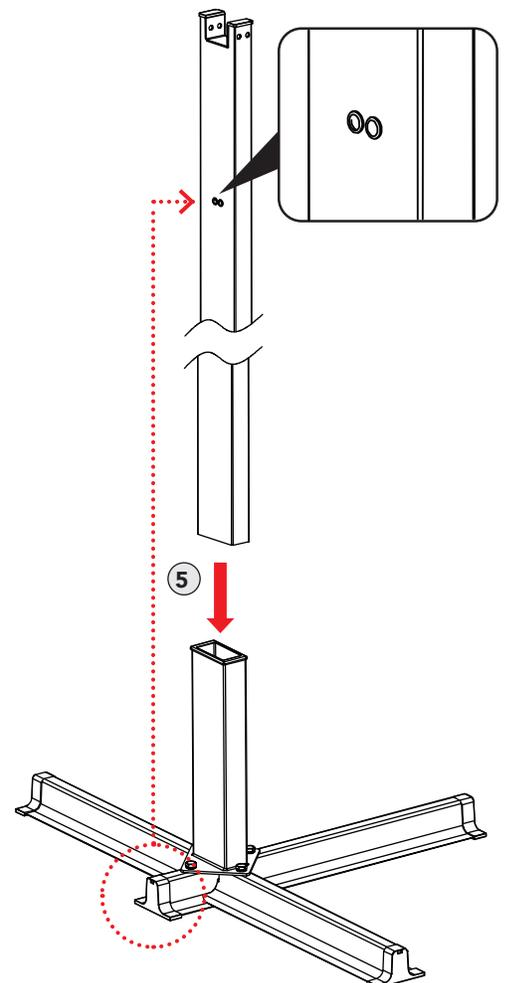

Fig 12
- ① Join the Short over the Long Foot/Base by aligning the cross slots, creating a cross base.
- ② Align the Lower Leg to the cross base pre-drilled holes, insert the Lower Leg Bolt Sets (Part L = Bolt, Lock Washer, Washer) and with a ½" wrench securely tighten in place.
- ③ Ensure the Upright Leg Cover is inserted to top of Upright Leg
- ④ Ensure the Lower Leg Coupling Insert is inserted and at the base of the Lower Leg and insert the Lower Leg Cover onto Lower Leg.
- ⑤ Insert the Upright Leg into the Lower Leg.
- ⑥ Repeat steps for additional leg support.
**\*NOTE:** For best stability ensure the long section of cross base is facing outward and short section is aligned with the Upright Leg's horizontal pre-drilled brace holes. Reference Fig.12.